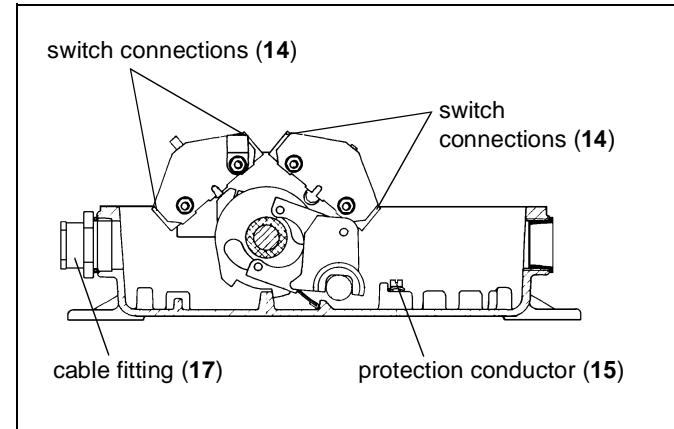

Fig. 5-8: Connection of switches and protection conductor
2. Connect the protective conductor to the appropriate connector (15) (s. fig. 5-8).
1. Connect the wires and the protection connector (15) (s. fig. 5-8 and 5-9).
- 7-3). When tightening the nuts (16) make sure that the switch element (13) is parallel to the switch cylinder (20).
5. Test the switch element (13) with a continuity tester in actuated and not actuated status (s. fig. 5-8 and 5-9).